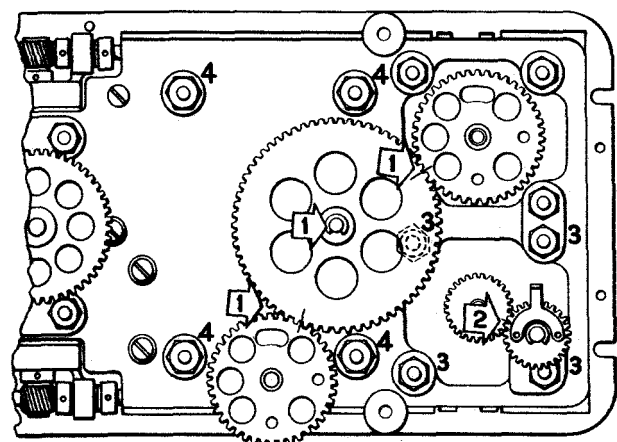

Figure 7-38. Method of Marking Gears for Removal of Selector Units
To remove either of the selectors, mark the large gear on the rear of the housing to indicate the points at which the gears mesh as shown in Figure 7-38. Remove the C-washer and slip the gear off the stud. To free the r-f selector, mark the small gears at the point of mesh, slip the C-washer off the stud, and remove the gear carrying the bent driving arm.
Step 1. Mark the large gear on the rear of the housing at points where it meshes with the smaller gears as shown in Figure 7-38. Remove the C-washer and slip the gear off the stud.